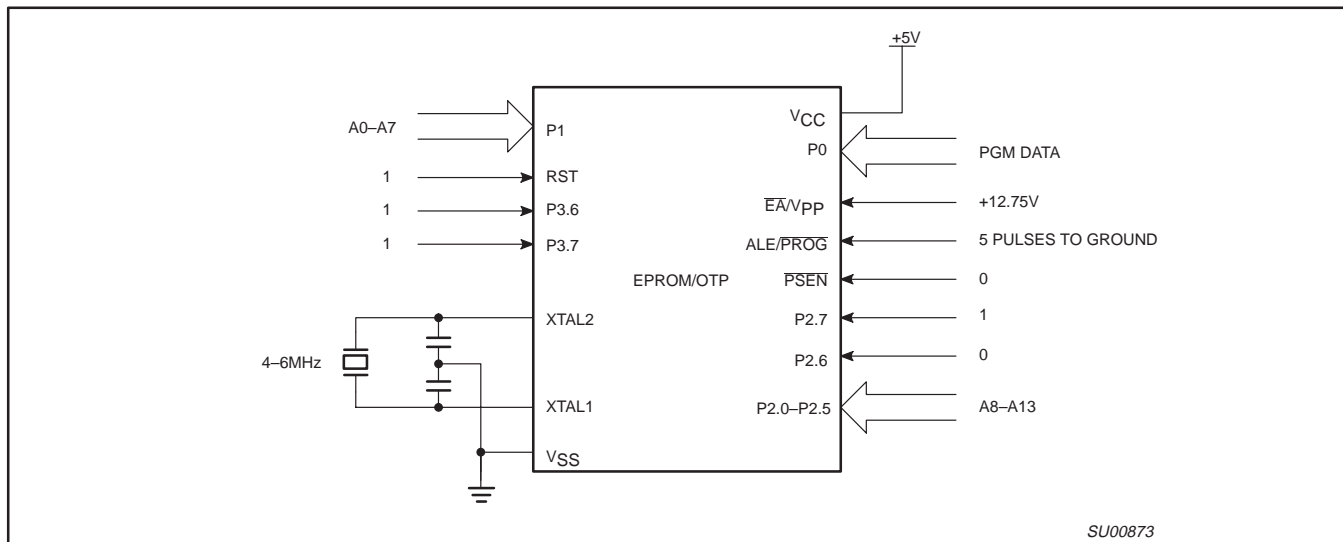
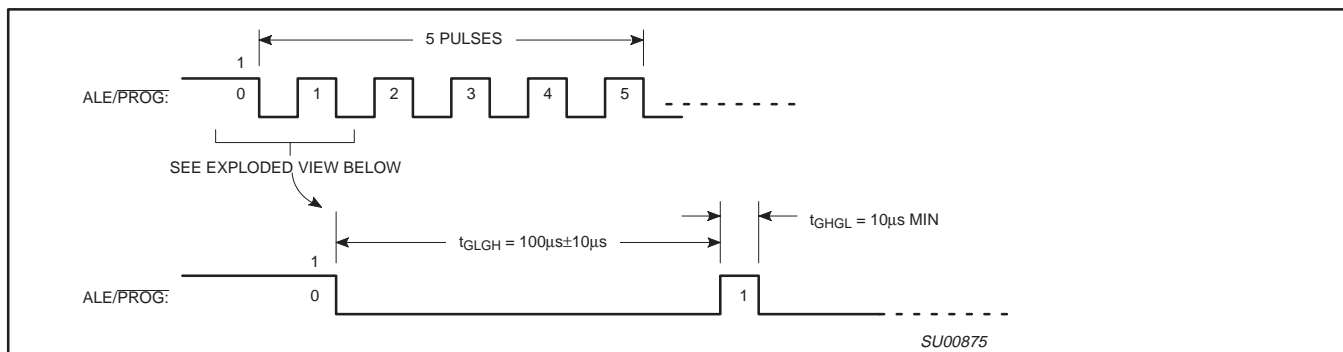
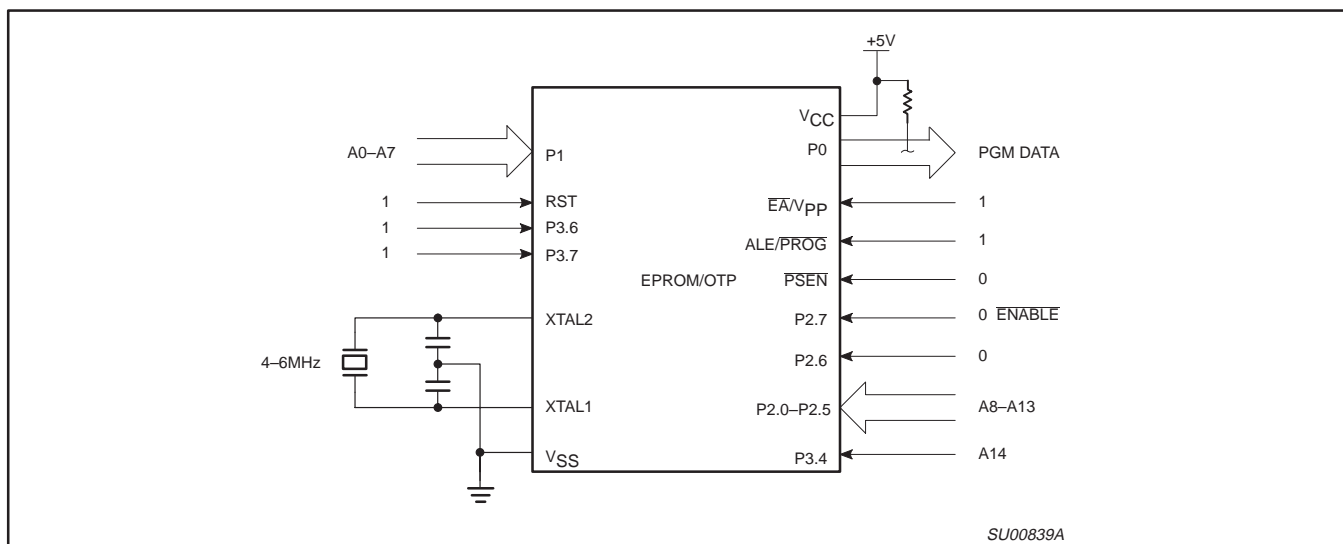

Figure 26. Programming Configuration
Figure 27. PROG Waveform
Figure 28. Program Verification
Table 8 shows the logic levels for reading the signature byte, and for programming the program memory, the encryption table, and the security bits. The circuit configuration and waveforms for quick-pulse programming are shown in Figures 26 and 27. Figure 28 shows the circuit configuration for normal program memory verification.
The setup for microcontroller quick-pulse programming is shown in Figure 26. Note that the device is running with a 4 to 6MHz oscillator. The reason the oscillator needs to be running is that the device is executing internal address and program data transfers.
The address of the EPROM location to be programmed is applied to ports 1 and 2, as shown in Figure 26. The code byte to be programmed into that location is applied to port 0. RST,  $\overline{PSEN}$  and pins of ports 2 and 3 specified in Table 8 are held at the 'Program Code Data' levels indicated in Table 8. The ALE/PROG is pulsed low 5 times as shown in Figure 27.
If security bits 2 and 3 have not been programmed, the on-chip program memory can be read out for program verification. The address of the program memory locations to be read is applied to ports 1 and 2 as shown in Figure 28. The other pins are held at the 'Verify Code Data' levels indicated in Table 8. The contents of the address location will be emitted on port 0. External pull-ups are required on port 0 for this operation.
- \* FOR PROGRAMMING CONFIGURATION SEE FIGURE 26.
FOR VERIFICATION CONDITIONS SEE FIGURE 28.